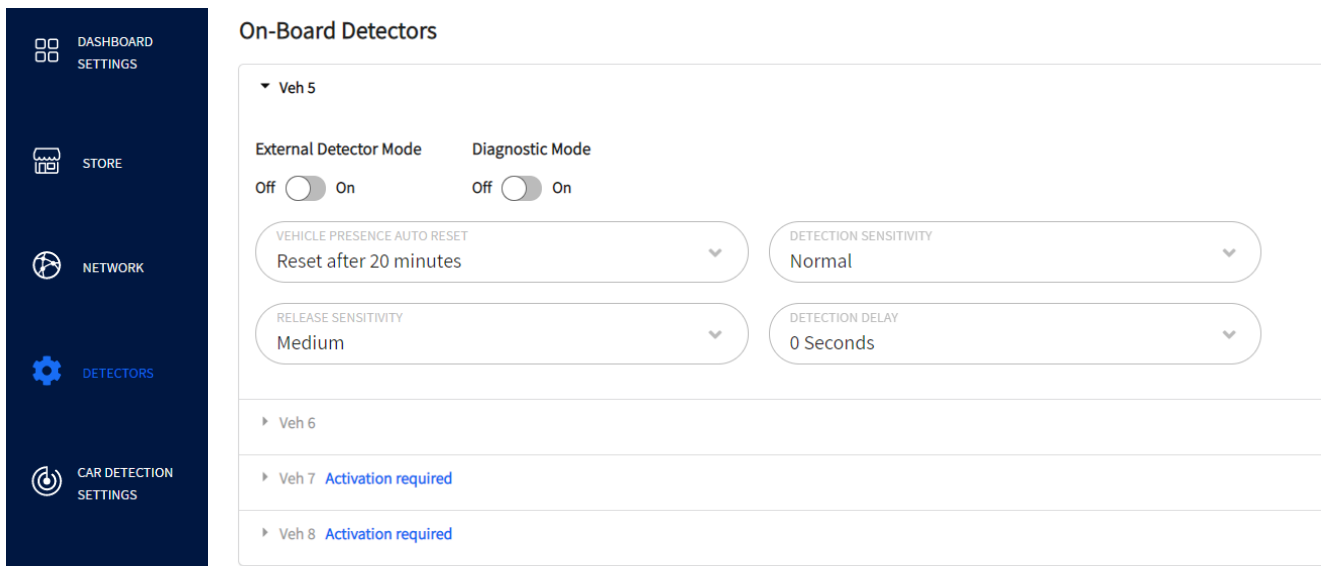

Fig. 6.3
**Why is it needed?** You can check the connection status, rename your TSP and configure detectors here. The green indicator next to TSP60 #1 in Fig. 6.3 indicates it is connected. If an issue arises with your TSP, you can reset it by using the **Reset** button. **Caution! resetting the TSP closes out the lane temporarily.** Therefore, all current lane event data is lost if there are vehicles present in the lane when the reset button is used but the TSP will begin monitoring lane events again once it reboots.
Depending on what TSP model your store is using determines what TSP is displayed at the top of the screen. In Fig. 6.3, two TSP models are employed, so both TSP50 and TSP60 #1 are displayed. If for example, you were to add another TSP60 to your system, it would also be displayed here.
The green indicator  next to the TSP60 tab in Fig. 6.3 indicates this TSP60 is physically connected. If the TSP is physically disconnected, this indicator will turn red, and a prompt will also notify you.
When a TSP is physically disconnected, it is still visible onscreen because it has not been removed from the system yet. Use the **Remove** button to accomplish this. This button only becomes active when a TSP is disconnected (a safety measure to prevent accidental removals). For example, in Fig. 6.3, TSP60 #1 is connected, so the Remove button is deactivated (indicated by a faded blue color). If TSP60 #1 is disconnected, the green indicator turns red, and the **Remove** button becomes active. Once clicked, TSP60 #1 will disappear from the top of the screen, leaving only TSP50 displayed. Re-connecting the TSP will cause it to appear again with a green indicator next to it.